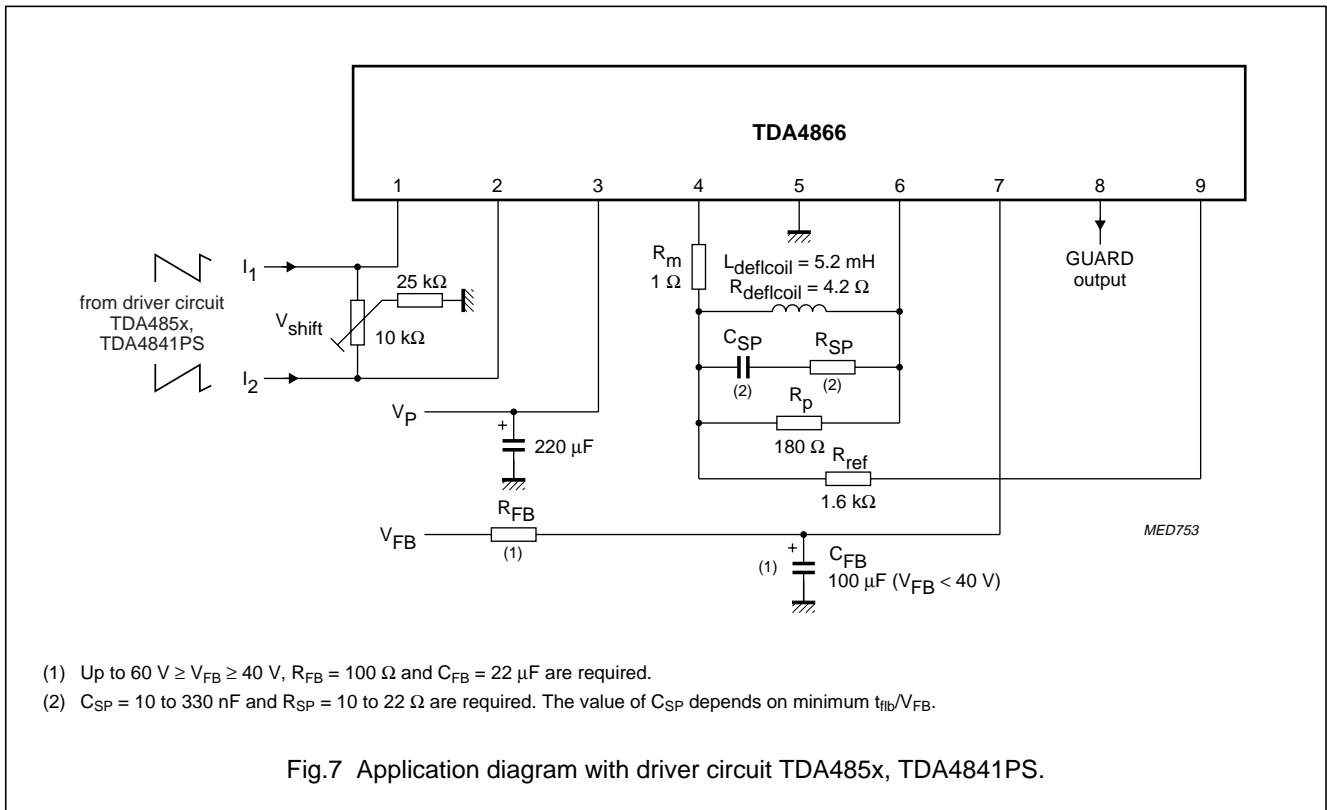

Fig.7 Application diagram with driver circuit TDA485x, TDA4841PS.
- Up to 60 V ≥ V_{FB} ≥ 40 V a decoupling capacitor C_{FB} = 22 μF (between pins 7 and 5) and a resistor R_{FB} = 100 Ω (between pin 7 and V_{FB}) are required (see Fig.7).